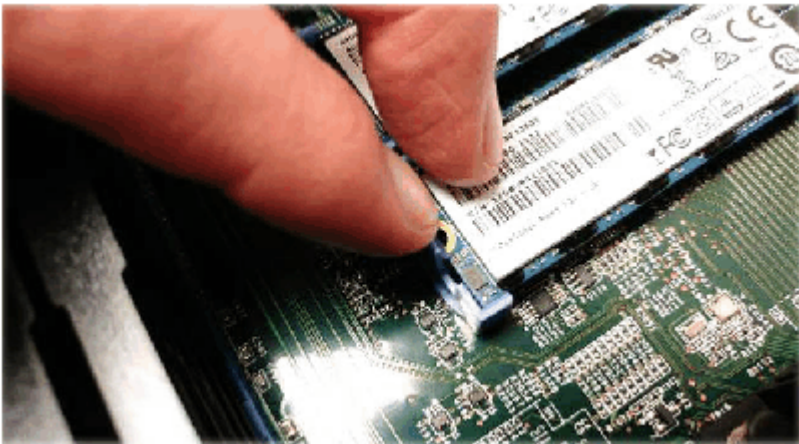

Figure 114. Removing the boot drive
- IBM Storage FlashSystem node canisters have dual boot drives. Figure 114 on page 150 and Figure 116 on page 151 show examples of a dual boot system. The system can run if one boot drive failed. See “Procedure: Understanding system volume dependencies” on page 109 to check for dependencies before you shut down the node.
12. Gently open the blue friction latch, as shown in Figure 114 on page 150. Apply gentle pressure; do not force the latch open.